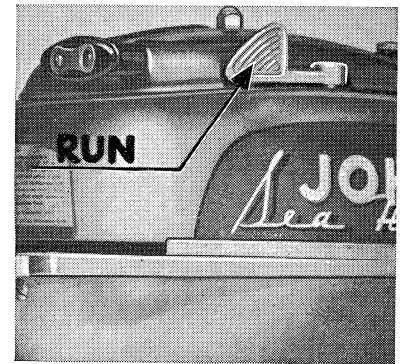

Fig. 12
8. Upon having started the motor, it may be advisable to move the speed control lever slightly to the left (facing motor) to avoid excessive idling speed. Allow motor to operate at "idle" until ready to depart from the dock—move neutral control lever to "running" position. Fig. 12. Advance speed control lever as desired.